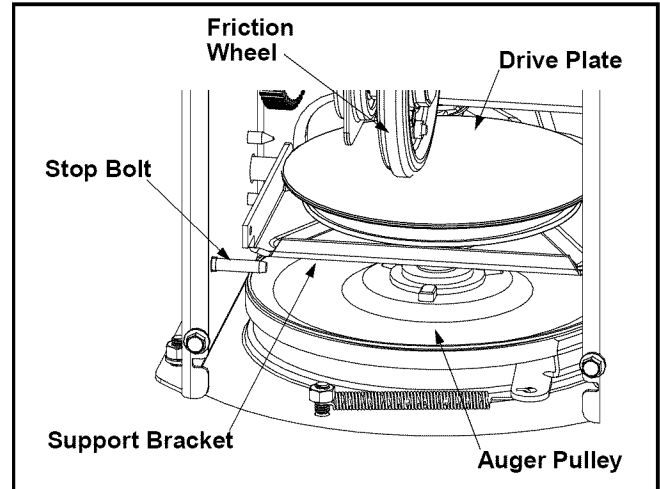

Figure 18
- Back out the stop bolt until the support bracket rests on the auger pulley. See Figure 18.